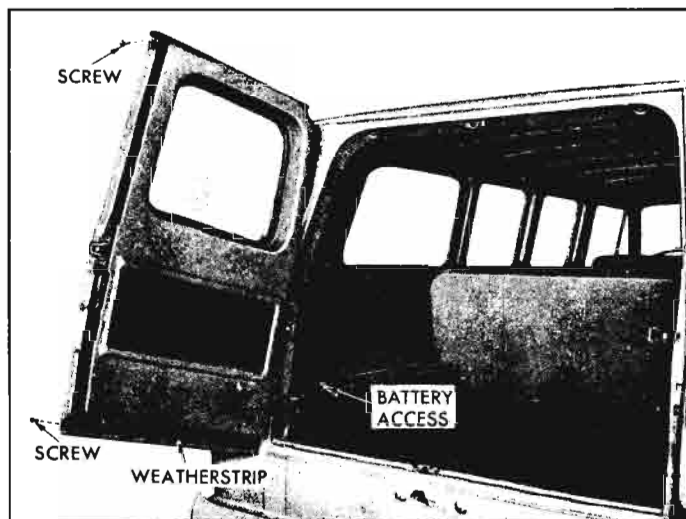

Fig. 10-86a—Rear Left Door Weatherstrip, Battery and Engine Access Door
Rear door sealing incorporates weatherstrip sealing three fourths around the left door, and completely around the right door as shown in Figures 10-86a and 10-87a.
3. Apply adhesive to door and attach weatherstrip as shown in Figures 10-86a and 10-87a.